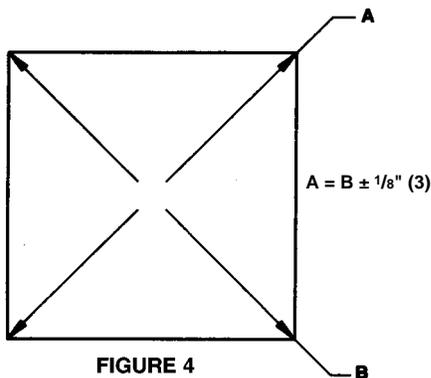

FIGURE 4
8. Individual damper sections, as well as entire multiple section assemblies, must be completely square and free from racking, twisting, or bending. Measure diagonally from upper corners to opposite lower corners of each section as shown in Figure 4. Both dimensions must be equal $\pm 1/8"$ (3).